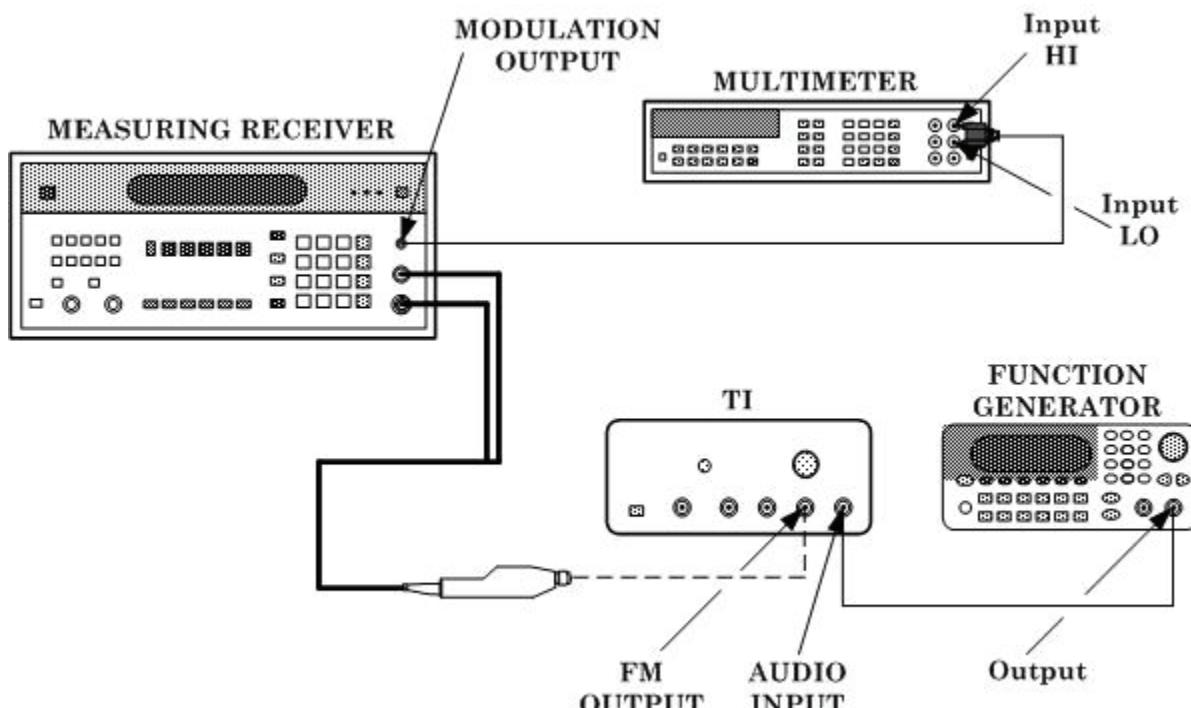

Figure 2. FM distortion - equipment setup.
- (1) Connect equipment as shown in figure 2.
- (2) Set TI TEST MODE switch to **FM**.
- (3) Set function generator controls for a 10 kHz, -18 dBm output.
- (4) Set measuring receiver to measure frequency in track tune mode.
- (5) Adjust TI CARRIER FREQUENCY TUNE until measuring receiver indicates 400.000 ± 0.010 MHz.
- (6) Set measuring receiver controls to measure average FM with a 50 Hz high pass filter (low pass filters and FM de-emphasis off).
- (7) Adjust function generator amplitude for a 20 kHz indication on measuring receiver.